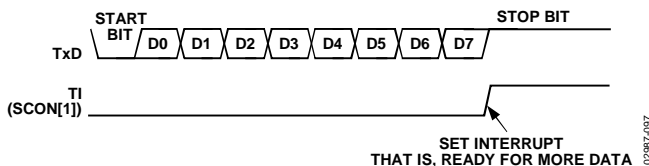

Figure 82. UART Serial Port Transmission, Mode 0
Transmission is initiated by writing to SBUF. The write to SBUF signal also loads a 1 (stop bit) into the ninth bit position of the transmit shift register. The data is output bit by bit until the stop bit appears on Tx/D and the transmit interrupt flag (TI) is automatically set, as shown in Figure 82.